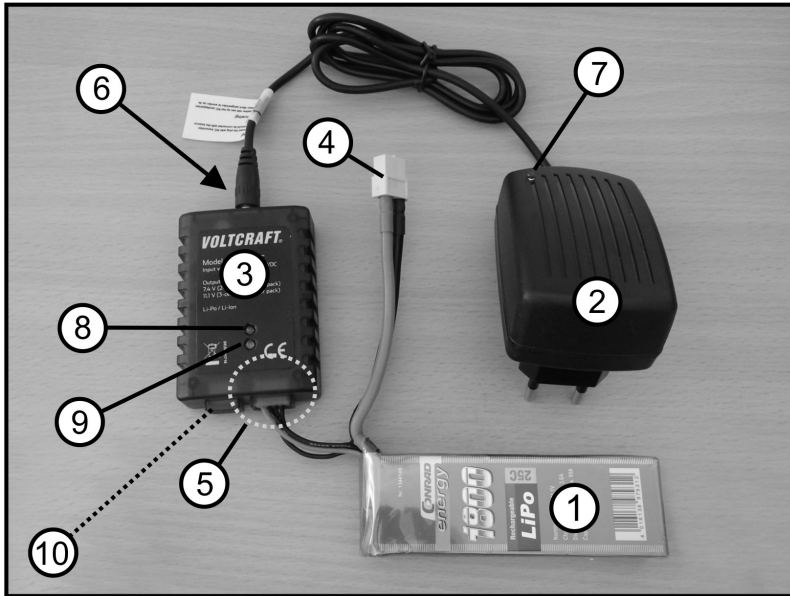

Figure 1
For photo-technical reasons, figure 1 shows the charging cable of the plug-in mains adapter in the wound-up state. Before first use, the cable retainer should be opened and the cable unwound.
The left charging socket at the balancer charger (see figure 1, item 10) serves to charge a 2-cell LiPo rechargeable battery that is charge according to the same chart as described above.